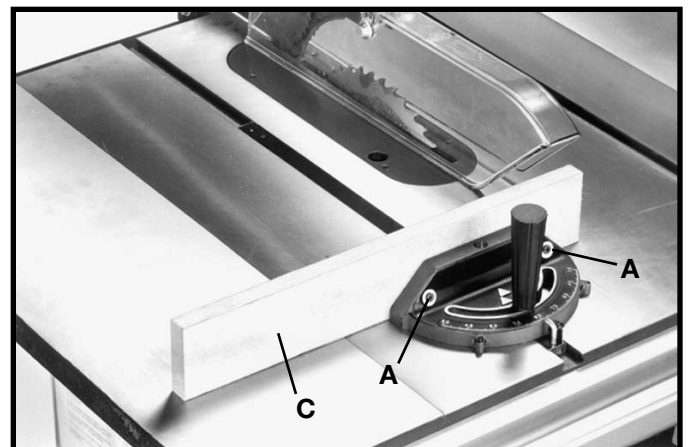

Fig. 121
For added safety and convenience the miter gage can be fitted with an auxiliary wood-facing (C), as shown in Fig. 121, that should be at least 1 inch higher than the maximum depth of cut, and should extend out 12 inches or more to one side or the other depending on which miter gage slot is being used. This auxiliary wood-facing (C) can be fastened to the front of the miter gage by using two wood screws (A) through the holes provided in the miter gage body and into the wood-facing.